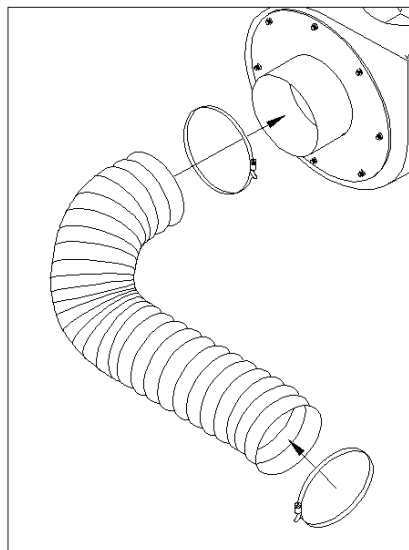

Fig. 8
9. Slip hose clamps over each end of intake hose (24). Attach to inlet (8) and tighten clamps. Fig. 8